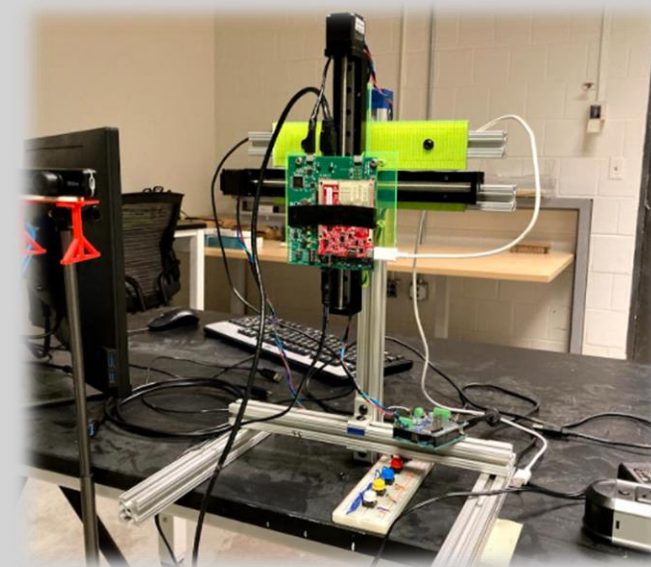

Fig. 1
- Raw data collecting mechanism (Fig. 1)